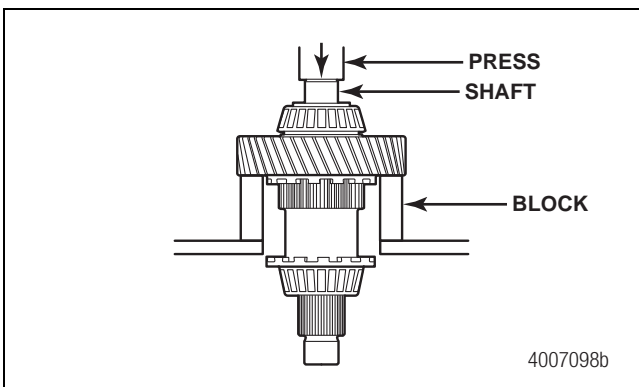

Figure 4.21
4. Prepare the shaft for bearing and gear removal. Install the front output shaft into a press with the rear of the output shaft facing UP. Support the shaft correctly. Figure 4.21.